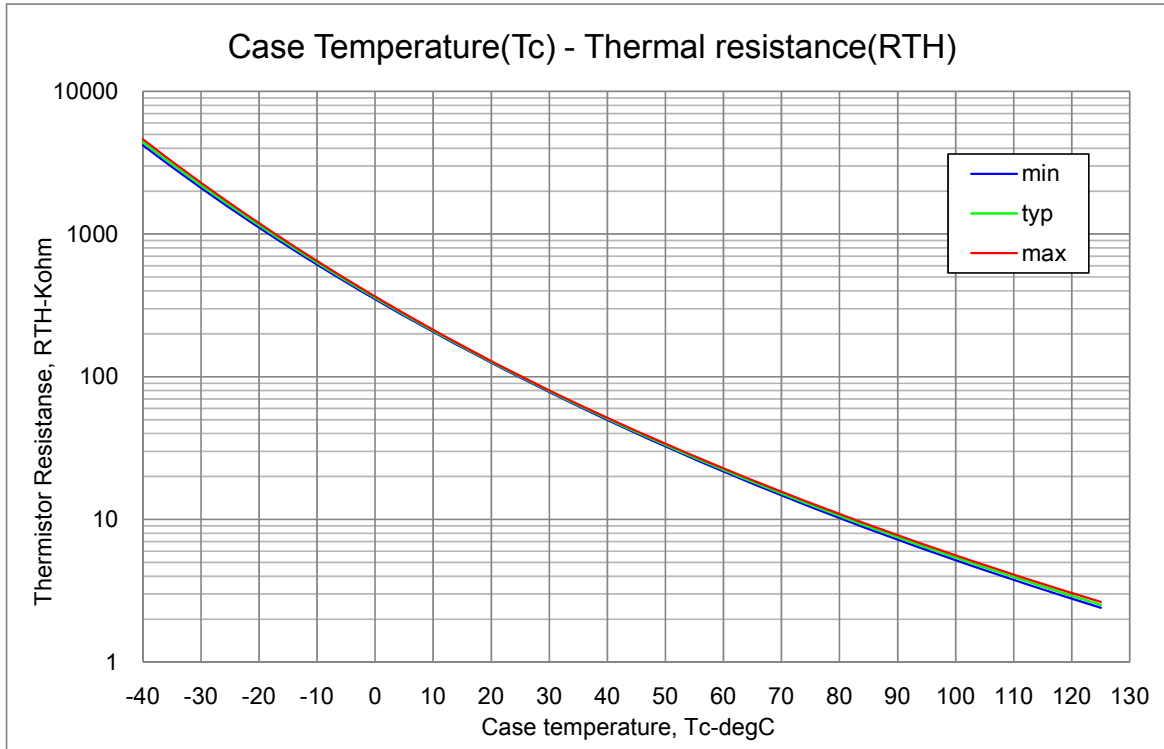

Fig.10 Variation of thermistor resistance with temperature
5. Inside the IPM, a thermistor used as the temperature monitor for internal substrate is connected between V_{SS} terminal and V_{TH} terminal, therefore, an external pull up resistor connected between the TH terminal and an external power supply should be used. The temperature monitor example application is as follows, please refer the Fig.10 and below.